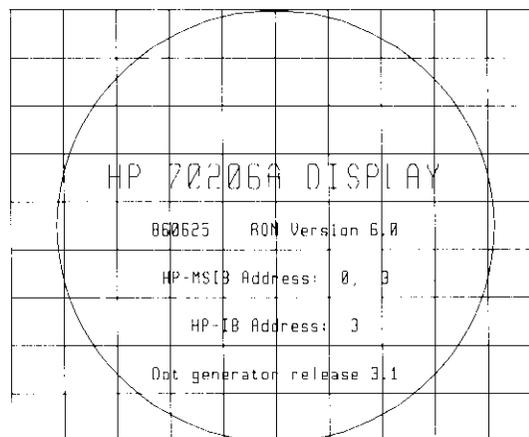

Figure 1-10. Display Firmware Version Date
1. At instrument start-up, the firmware version and date appears on the display CRT for several seconds. See Figure 1-10.